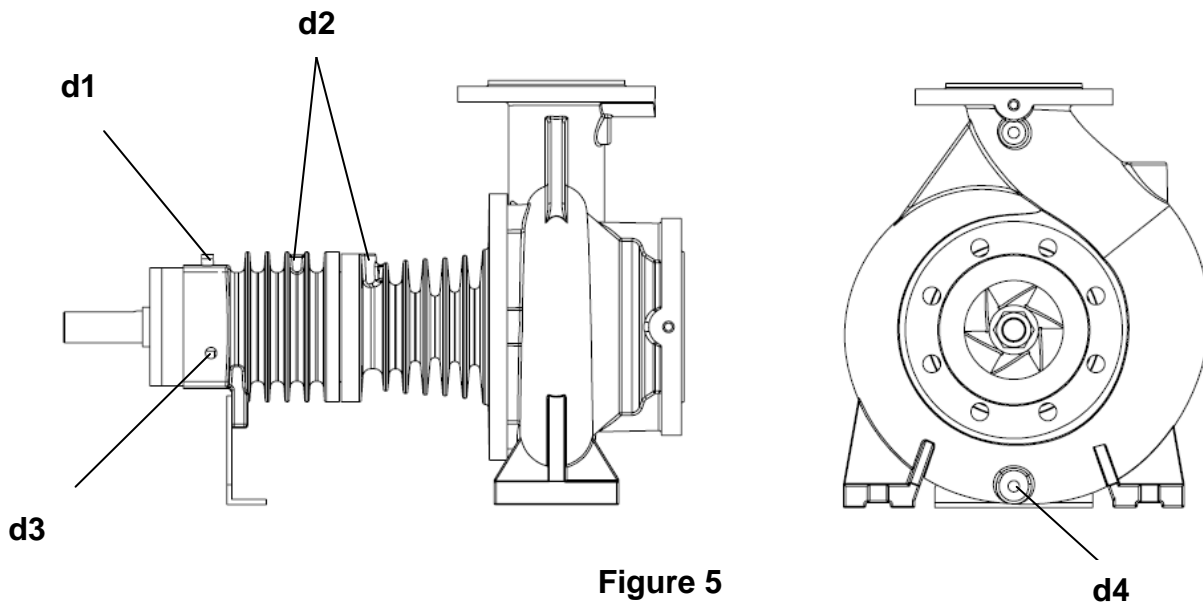

Figure 5
- There are connection places in every pump for discharging pump and removing leakages in seal bed. **(Fig. 5)** Those connections can be connected to discharge tank by means of pipes if requested. There should be isolation valve in pipe which is used for pump discharging and this valve and pipe should be suitable with maximum operational pressure of pump.